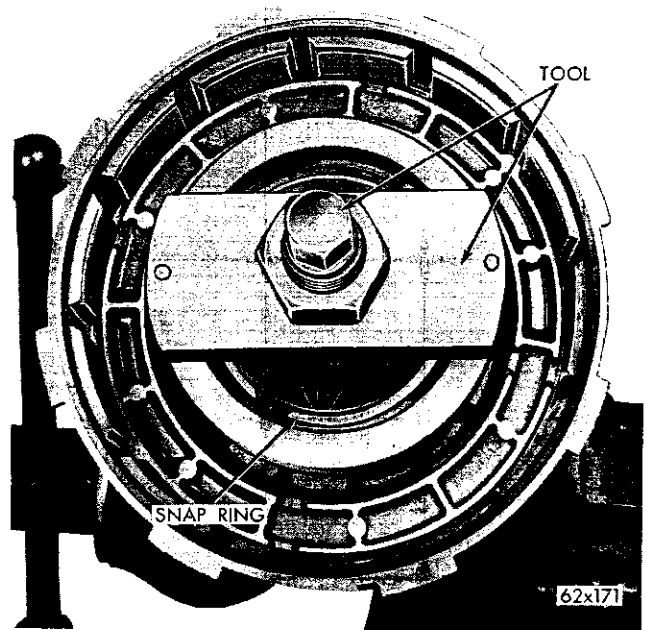
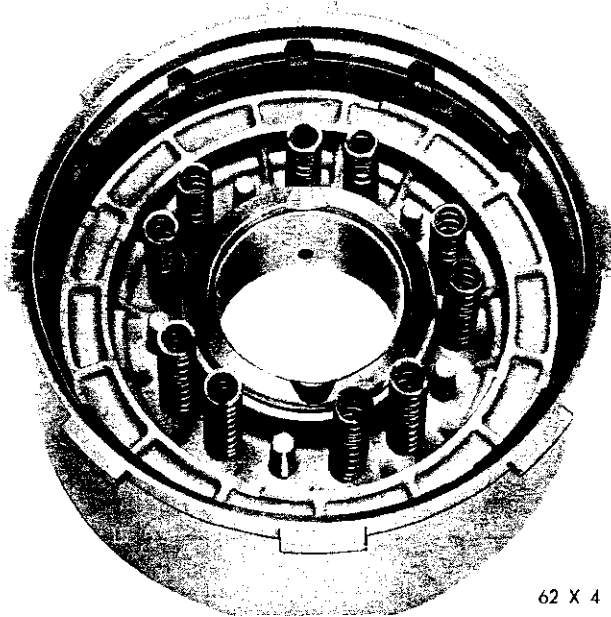

Fig. 67—Removing or Installing Front Clutch Spring Retainer Snap Ring
Fig. 69—Front Clutch Return Springs—Location
- (1) Using a screw driver, remove the large snap ring that secures the pressure plate in the clutch piston retainer. Lift the pressure plate and clutch plates out of the retainer.
- (2) Install compressor, Tool C-3863 over the piston spring retainer as shown in Figure 67. Compress the springs and remove the snap ring, then slowly release the tool until the spring retainer is free of the hub. Remove the tool, retainer and springs.
- (3) Invert the clutch retainer assembly and bump on a wood block to remove the piston. Remove the seals from the piston and clutch retainer hub.
(3) Place the 10 springs on piston hub exactly as shown in Figure 69. Position the spring retainer and snap ring on the springs. Compress springs with Tool C-3863 (Fig. 67), and seat snap ring in the hub groove. Remove the compressor tool.